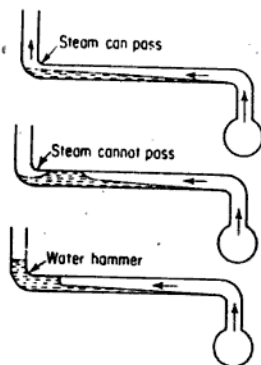

Fig. 13-14. Water hammer is destructive.
A If the steam main is pitched incorrectly when the line is not dripped, water hammer may occur as shown in Fig. 13-14. To prevent water hammer, (1) pitch pipes properly, (2) avoid undrained pockets, and (3) choose a pipe size that prevents high steam velocity when condensate flows opposite to the steam, or where condensate has a chance to collect during idle periods.